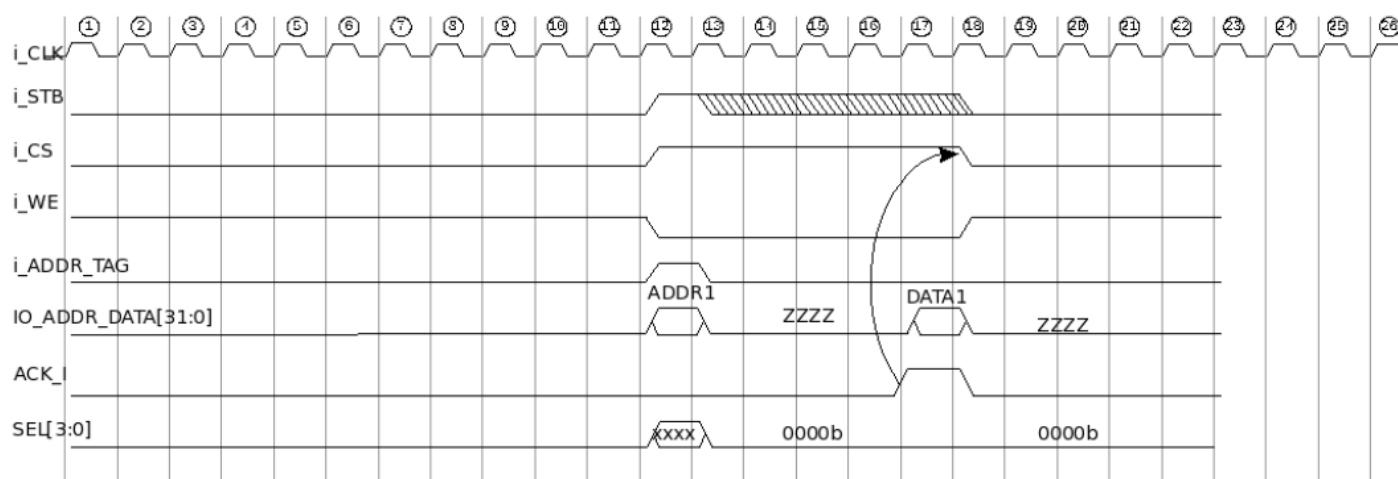

Figure 3: Single word read cycle on the processor interface
**Single Word Read Transaction :** This transaction can be used to access a single 32 bit word from the SDIO Controller. This transaction is mainly used for accessing the CPU register set for reading response bytes, status registers, read write register values. The timing diagram of the transaction is shown in Figure 3